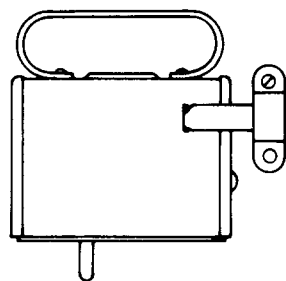

Fig. 6—KS-14555, L3 Connector
- (c) **KS-14555, L3:** The KS-14555, L3, connector (Fig. 6) is provided with a cover which has a cable clamp at one end and an enclosed handle at the top. The cable clamp closes to 3/8 inch. The KS-14555, L3, connector is used on the carrier and pilot switching panel in the L3 carrier terminal.